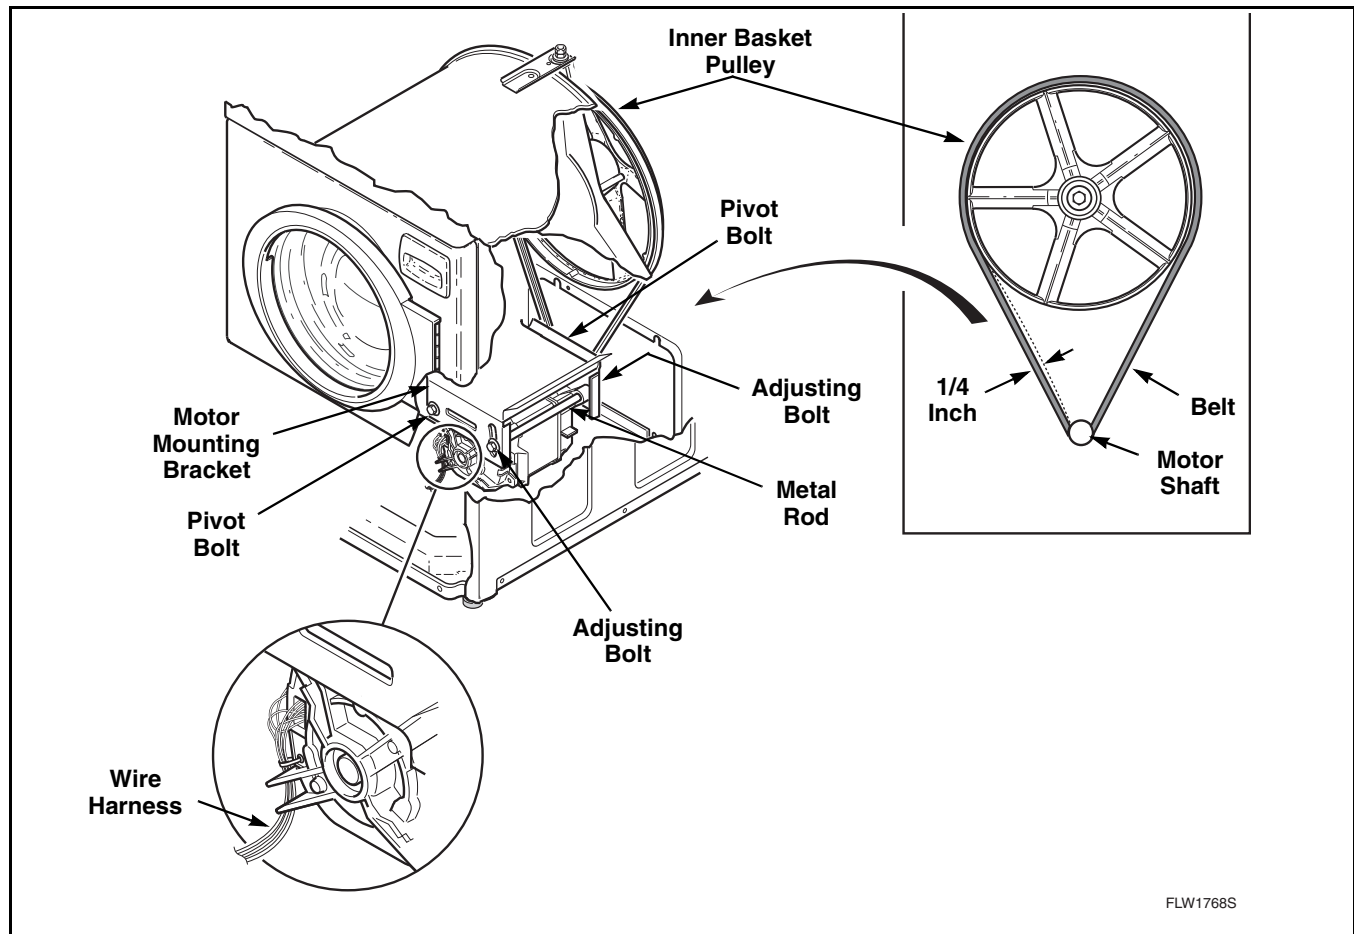

Figure 8
to *Figure 8*. Repeat procedure to loosen the two pivot bolts. Refer to *Figure 8*.
- Pull down on motor to increase belt tension. Use a Burroughs belt gauge to obtain proper tension. Proper belt tension is obtained when belt can be deflected approximately 1/4 inch (6.35 mm) from normal position when moderate pressure 50 to 60 pounds (22.68 to 27.22 Kg) is applied to a point midway between pulleys. Refer to *Figure 8*.
- After proper belt tension has been obtained, tighten belt adjusting bolts firmly, then tighten pivot bolts. Refer to *Figure 8*.